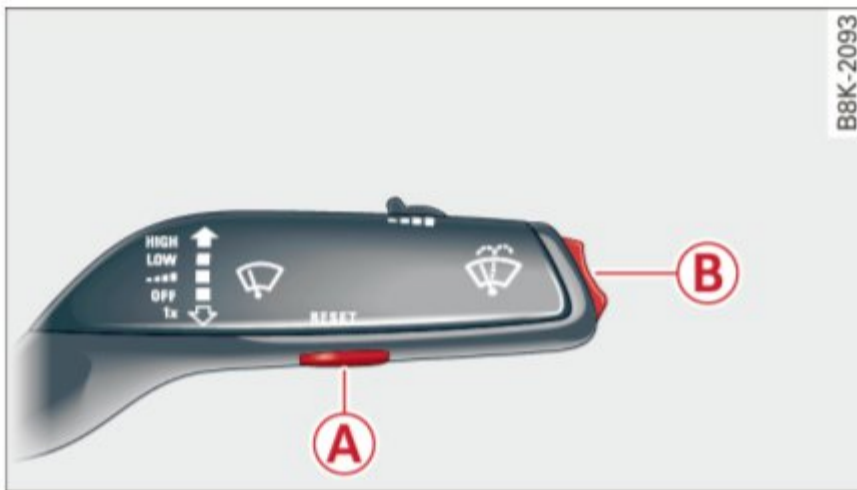

Fig. 11 Windshield wiper lever: controls for the trip computer
You can switch between the trip computer 1 and 2 and the efficiency program* by pressing the **RESET** button **A** ⇒ page 23, fig. 11.
- ▶ To display the trip computer memory levels, press the **RESET** button (A) ⇒ fig. 11 repeatedly until the desired memory level is shown in the display.
- ▶ To display trip information within a memory level, press the top or bottom part of the function selection switch (B).
- ▶ Press the **RESET** button **A** ⇒ *page 23, fig. 11* repeatedly until the efficiency program appears in the display.
- ▶ In the efficiency program, press the function selection switch ⇒ page 23, fig. 11 (B) repeatedly until the enhanced shift indicator appears in the display.
- ▶ In the efficiency program, press the function selection switch ⇒ page 23, fig. 11 (B) repeatedly until the other equipment appears in the display.
- ▶ To turn a fuel economy message off immediately after it appears, press the **RESET** button ⇒ page 23, fig. 11 **A**, or
- ▶ Press the function selection switch ⇒ page 23, fig. 11 **B**.